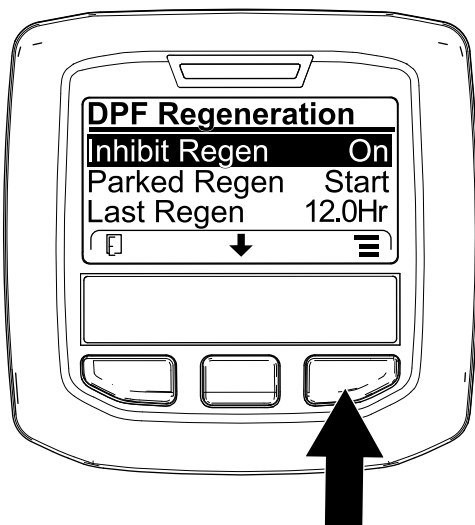
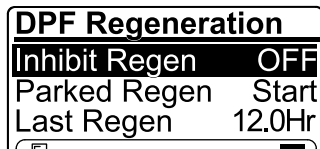

Figure 42
Figure 43
1. Access the DPF Regeneration menu, press the center button to scroll down to the INHIBIT REGEN option, and press the right button to select the Inhibit Regen entry (Figure 42).
2. Press the right button to change the inhibit regeneration setting from On to Off (Figure 42) or from Off to On (Figure 43).